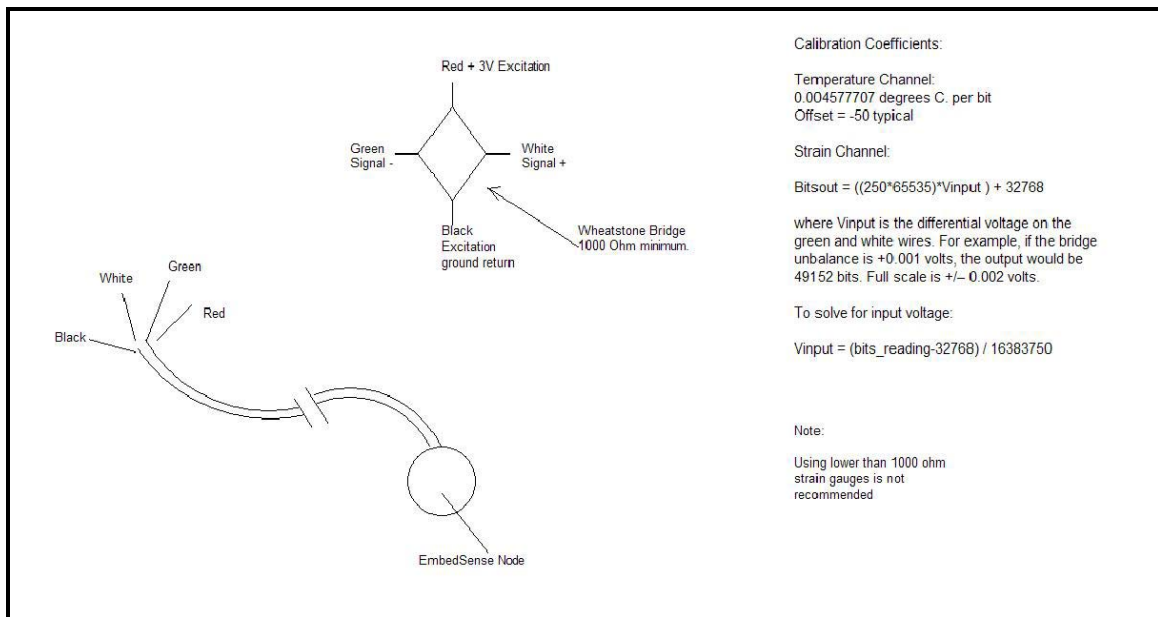

Figure 5
- Figure 5 shows the Calibration Coefficients required to scale the raw ‘bits’ from the system into engineering units.